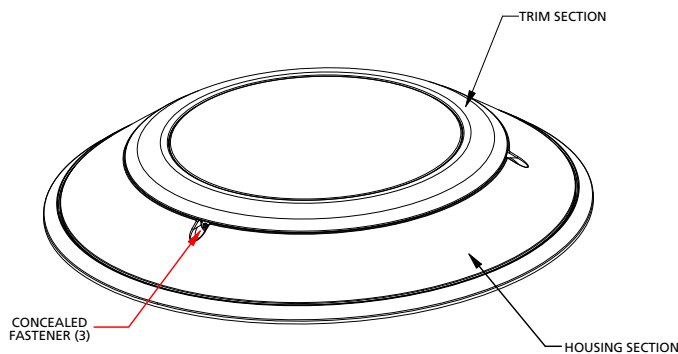

Figure 2
3. Use a T20 Torx tamper-resistant bit to loosen the 3 concealed fasteners securing the trim section. **See Figure 2.**